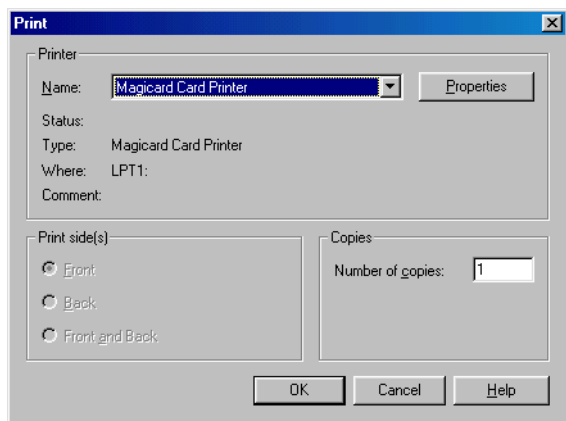

Figure 5: The Print Window
2. Click the File ⇒ Print pull-down menu option. The Print window appears (see Figure 5 on page 7).